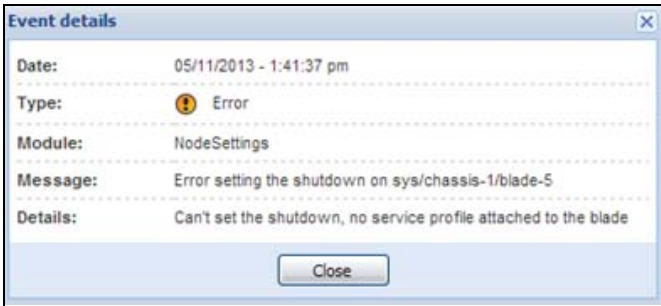

Figure 219. No Service Profile
1. You can't set a shutdown to a blade that doesn't have a service profile assigned (see Figure 219).